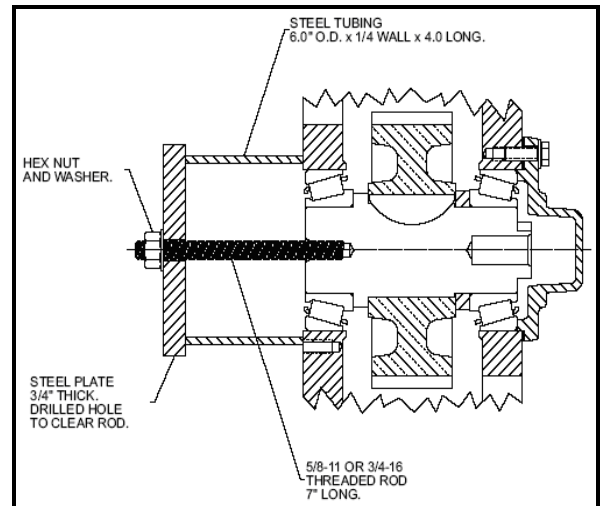

Figure 20
7. The gear and the rear bearing cone both have a press fit to the intermediate shaft. Therefore, a puller will be necessary to remove the shaft if damage is to be avoided. (A sketch depicting a suitable fabricated puller is illustrated in **Figure 20**.)